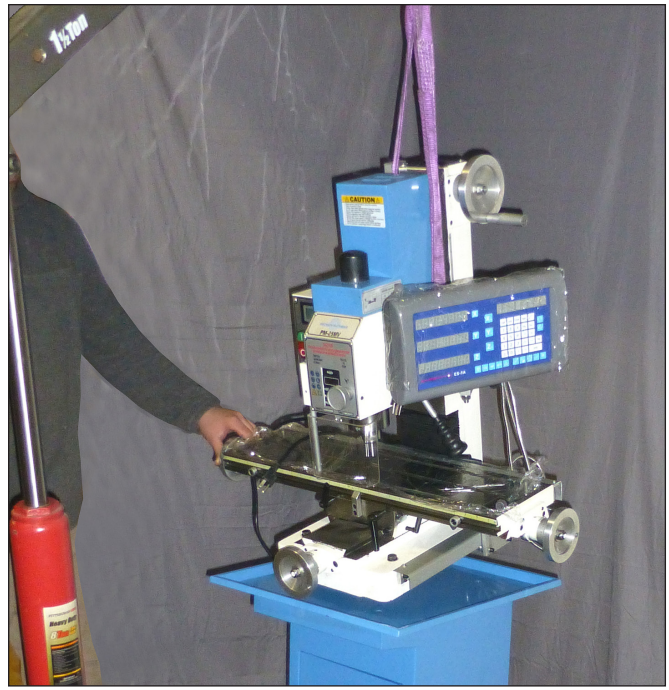

Figure 1-3 Lowering the mill into position
7. Roll the mill into position over the tray, then lower it into place, Figure 1-3.